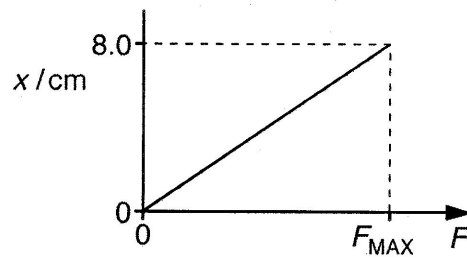

Fig. 3.2
- (ii) The variation of the compression  $x$  of the spring with the force  $F$  applied to the spring is shown in Fig. 3.2.